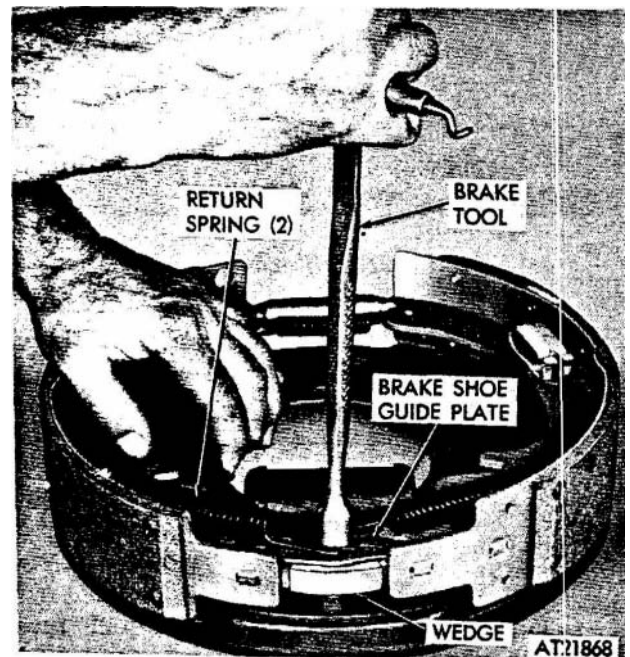

Figure 2-215. Brake return spring, removal and installation.
(10) Remove both brake return springs from brake shoes, using a suitable brake tool (fig 2-215).